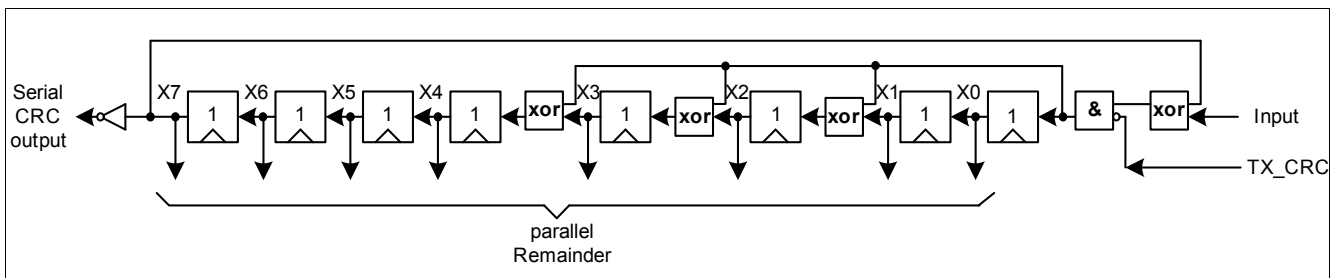

Figure 4-12 Fast CRC polynomial division circuit
- Generator polynomial: $X^8+X^4+X^3+X^2+1$, but for the CRC generation the fast-CRC generation circuit is used (see Figure 4-12)